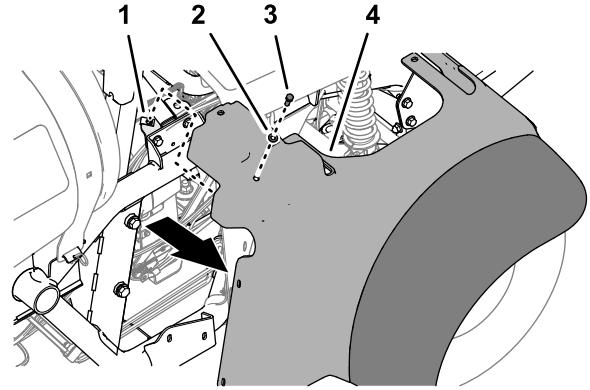

Figure 17
4. Remove the capscrew (5/16 x 1 inch) and washer (5/16 inch) that secures the right, front fender to the cross-member support (Figure 17).